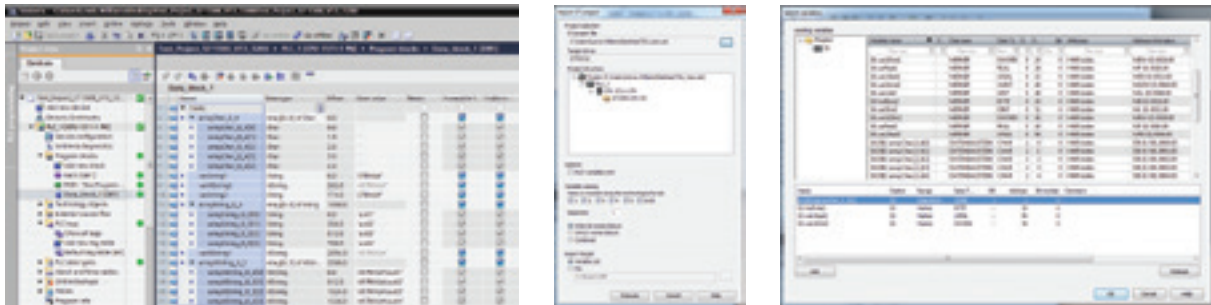

Figure 2: Import of variables from Siemens S7 TIA Portal.
- For example, Siemens S7 TIA portal (see Figure 2), Allen-Bradley ControlLogix, OPC UA and many more.